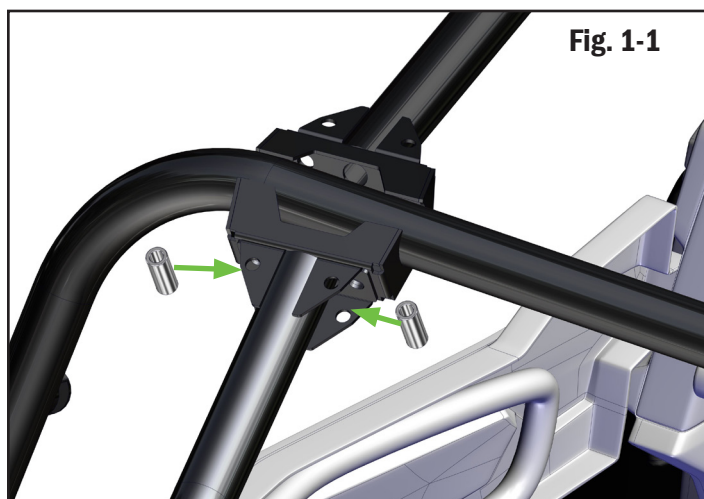

Fig. 1-1
- Align aluminum spacers with the top mounting holes of the vehicle. Fig. 1-1